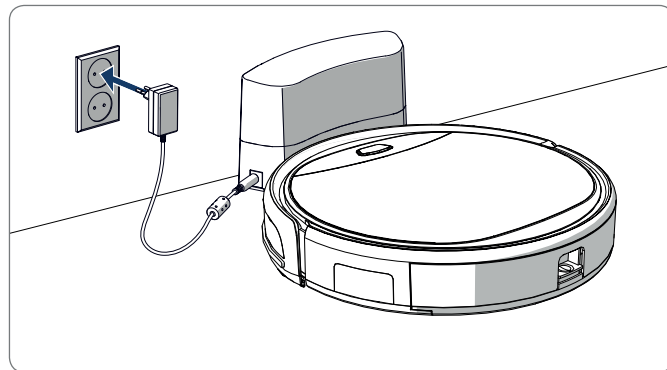

Figure 10 - Charging the robot with the charging station
- In the charging station, see Figure 10. The power light on the charging station will light up when charging is underway.